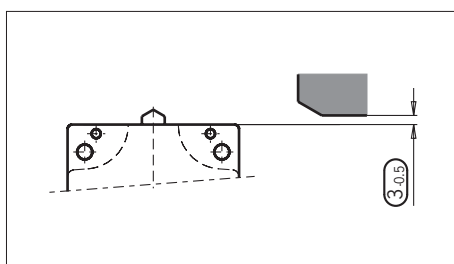

Figure 3: Mounting SN...-508 and SN...-514 for safety circuits
- ⚠ It is imperative that dimension $\phi_{3.05}$ (distance from switch reference surface to trip dog, see Figure 3) is maintained in safety circuits to ensure safe contact opening.